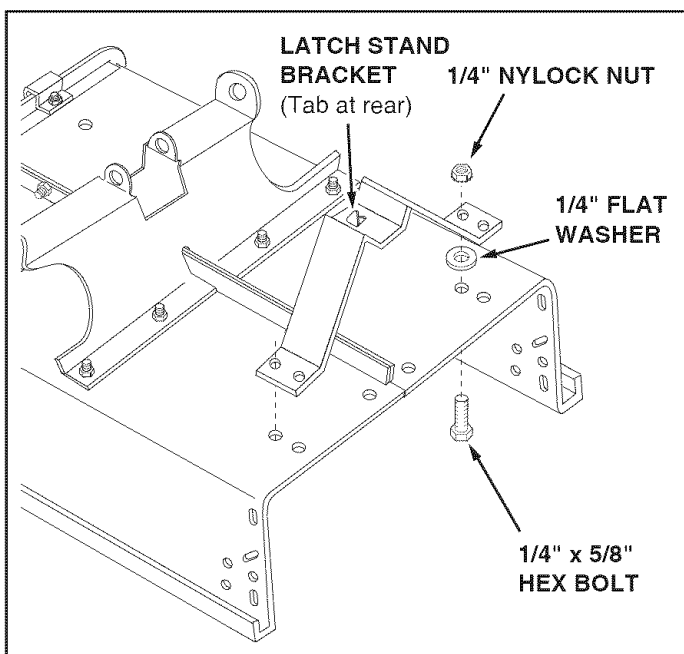

FIGURE 5
- To prevent accidental tipping during the following assembly procedures, lower the cart to rest upside down, with the wheel support facing up, as shown in figure 5.
- Align the latch stand bracket so that the tab is at the rear. Fasten the bracket to the rear set of holes at the front of the cart using two 1/4" x 5/8" hex bolts, 1/4" flat washers and 1/4" nylock nuts. Use the 1/4" flat washers as shims between the bracket and the cart bed. **Make finger tight.** See figure 5.
19. **Tighten** the two bolts that you assembled to the latch stand bracket in figure 5.